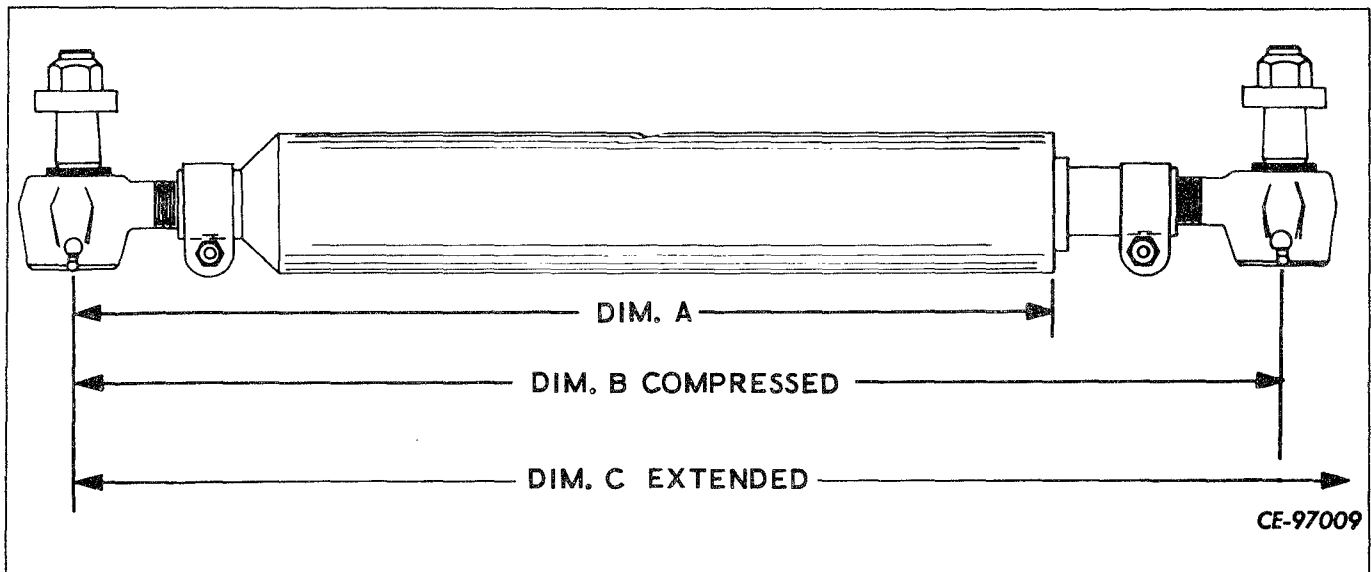
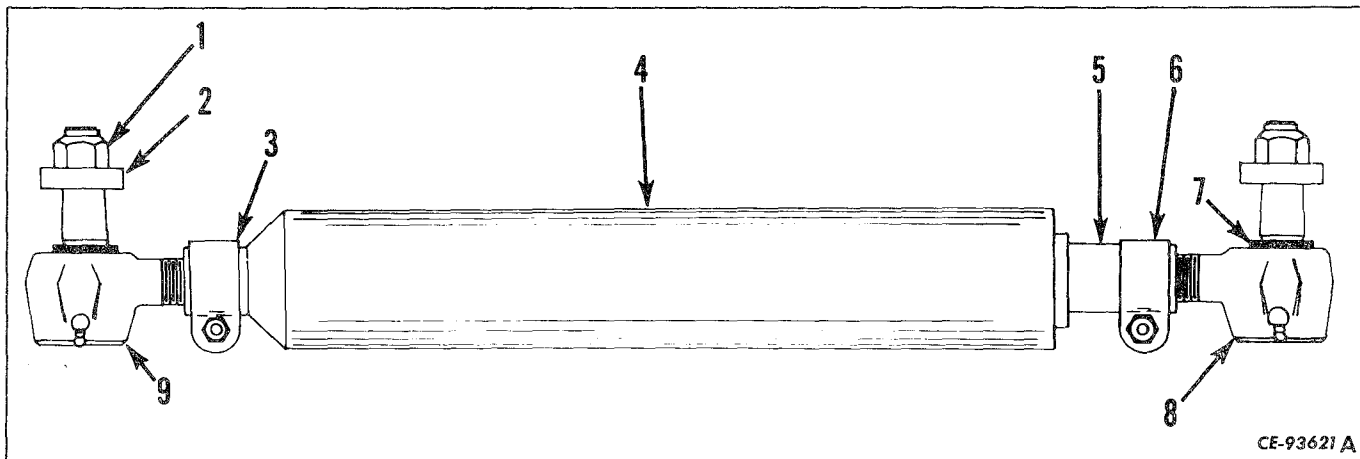

Figure 7-5
Figure 7-7
Adjust static length of dimension "A" (Fig. 7-5) first. When dimension is obtained tighten clamp (3, Fig. 7-7) to secure adjustment. Make adjustment for dimensions "B" and "C" (Fig. 7-5) with ball socket (8, Fig. 7-7) on rod end of cylinder assembly. Snug clamp (6) but do not tighten.